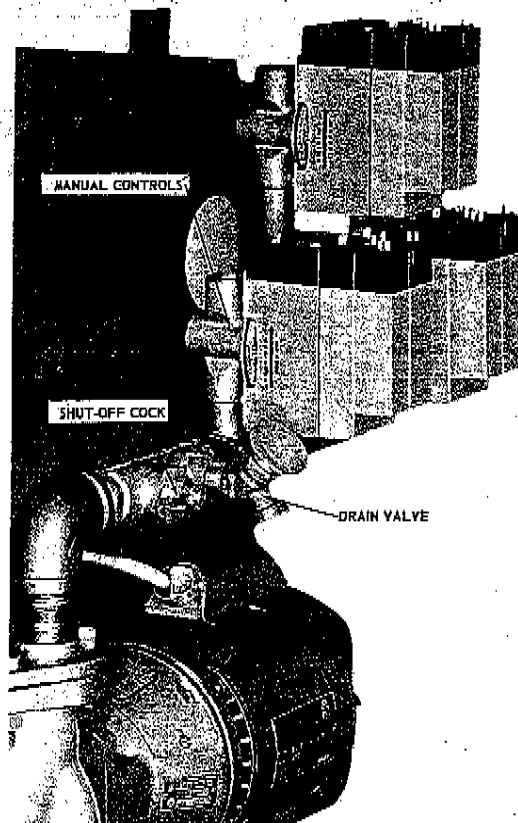

Figure 5 - Zone Valve Manual Control
4. With electrical supply off, manually open one of the zone valves by turning knurled control on the side of zone valves, in the direction of the arrow, see Figure 5. The valve is open when the red indicator is visible.